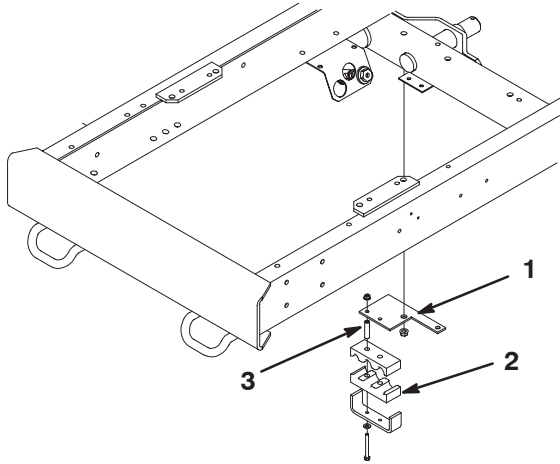

Figure 12
11. Insert the spacer into the hose clamp. Attach the hose clamp to the hose bracket with two 1/4-20 x 2-1/2" lg. screws and nuts. Remove the bolts and locknuts from the left front motor mount, near the left side of the carrier frame and discard the locknuts. Install the hose bracket and hose clamp with the previously removed bolts and two new locknuts (Fig. 12).
Note: Hose 100-3913 routes through the hose clamp (Fig. 12).